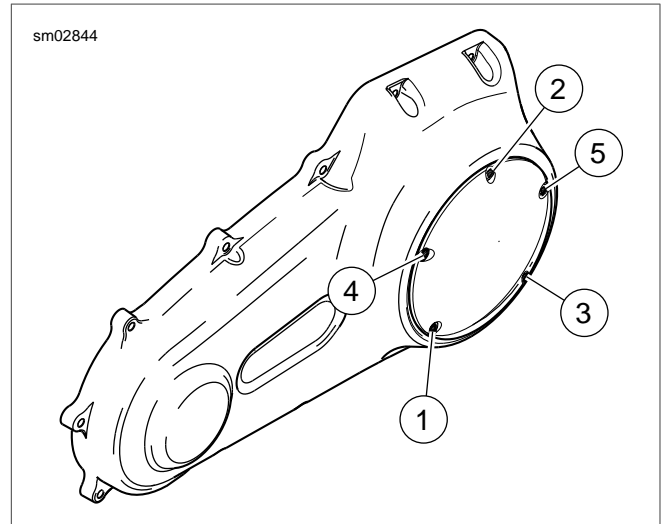

Figure 1-16. Clutch Cover Torque Sequence
- c. See Figure 1-16. Insert screw (with captive washer) through clutch inspection cover and carefully thread it into the top cover screw hole.
- e. Alternately tighten screws to 84-108 **in-lbs** (9.5-12.2 Nm) following torque sequence shown in Figure 1-16.